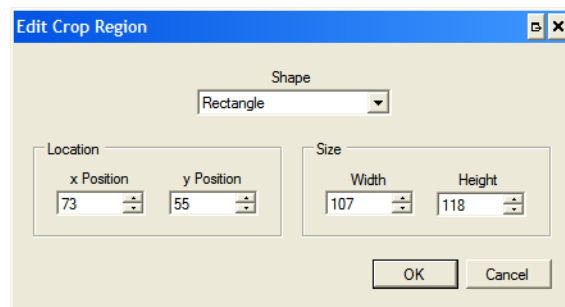

Figure 3.2 Edit ROI Region Size and Position
Draw an ROI inside the image by picking the first corner and dragging the cursor to another corner and letting go of the button. When an ROI region is selected, it can be repositioned by dragging anywhere within its region and resized by dragging on any of the eight “Handles” on the periphery. The shape, location, and size of the ROI can also be changed by using the ROI Properties Window (**Figure 3.2**). To access this window, right-click inside the ROI and choose **Properties....** This window is useful for drawing a pre-defined ROI.
3. Size and position the ROI to enclose the desired region with the mouse or the ROI Properties Window (**Figure 3.2**).